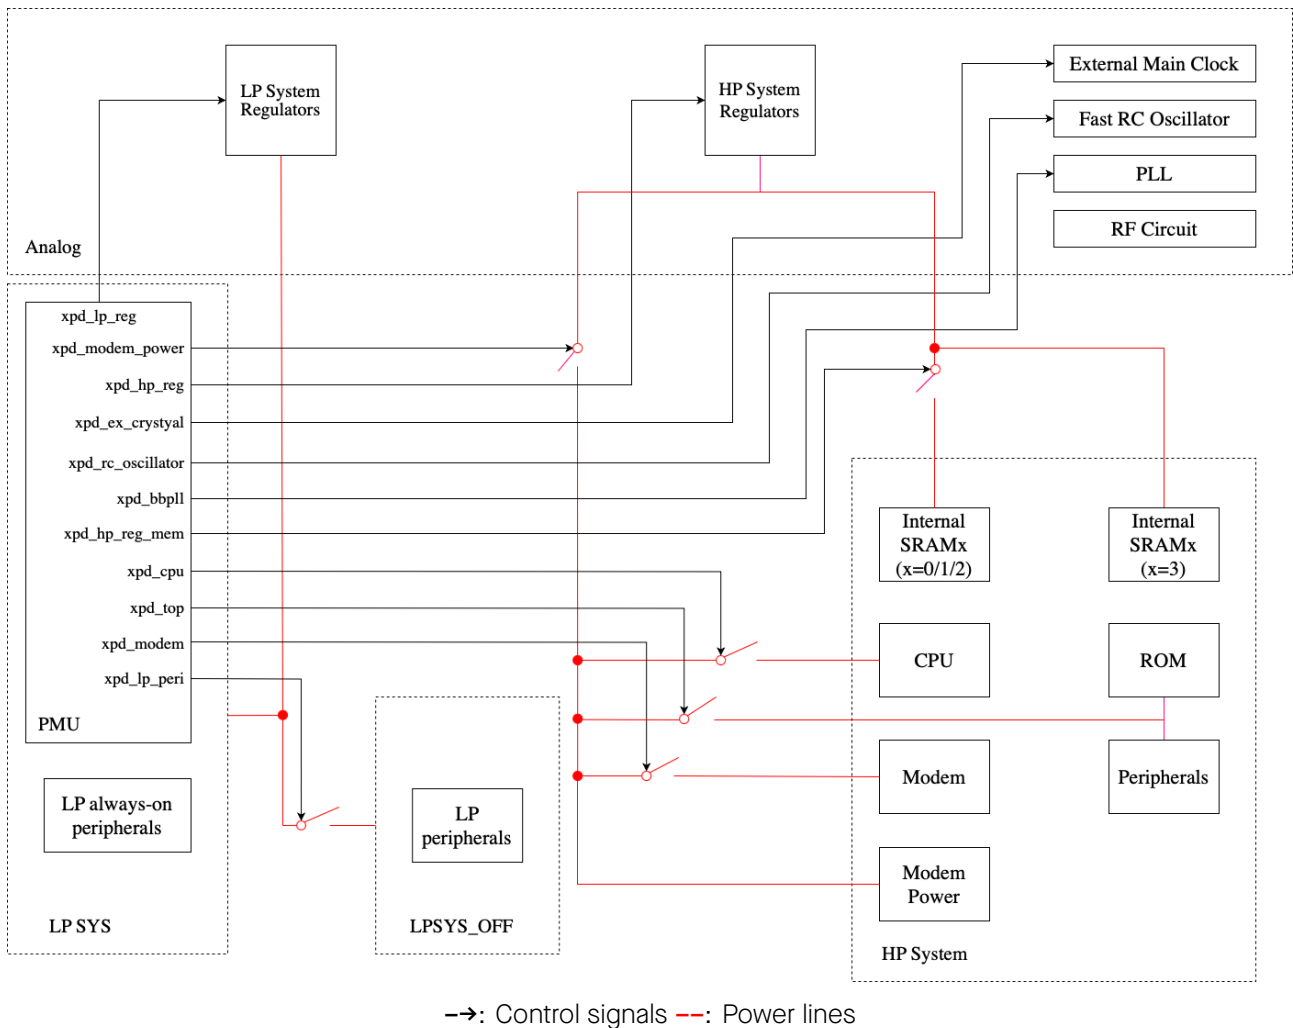

Figure 9.4-1. ESP32-C61 Power Scheme
As shown in Figure 9.4-1, the analog part of ESP32-C61 contains two sets of regulators that regulate the power supply to different power domains. The two regulators are:
- **Internal SRAMx**: As shown in Figure 9.4-1, each of SRAM0/1/2 has an independent power switch, while SRAM3 is directly connected to the regulator without a power switch.
As Figure 9.4-1 shows, ESP32-C61 contains the following analog power domains, among which PLL belongs to the HP system while the other domains belong to the LP system: